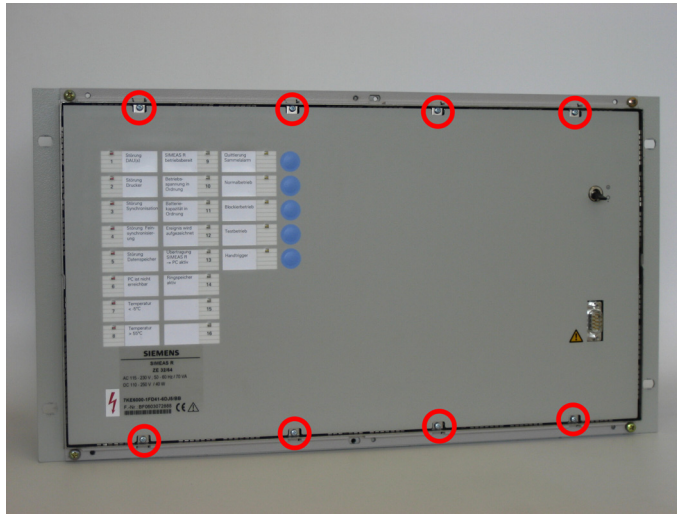

Figure 1-2 Removing the front plate
- ❑ Remove the screws on the top edge of the front plate. Loosen the screws on the lower edge only until the front plate can be easily removed (see Figure 1-2).